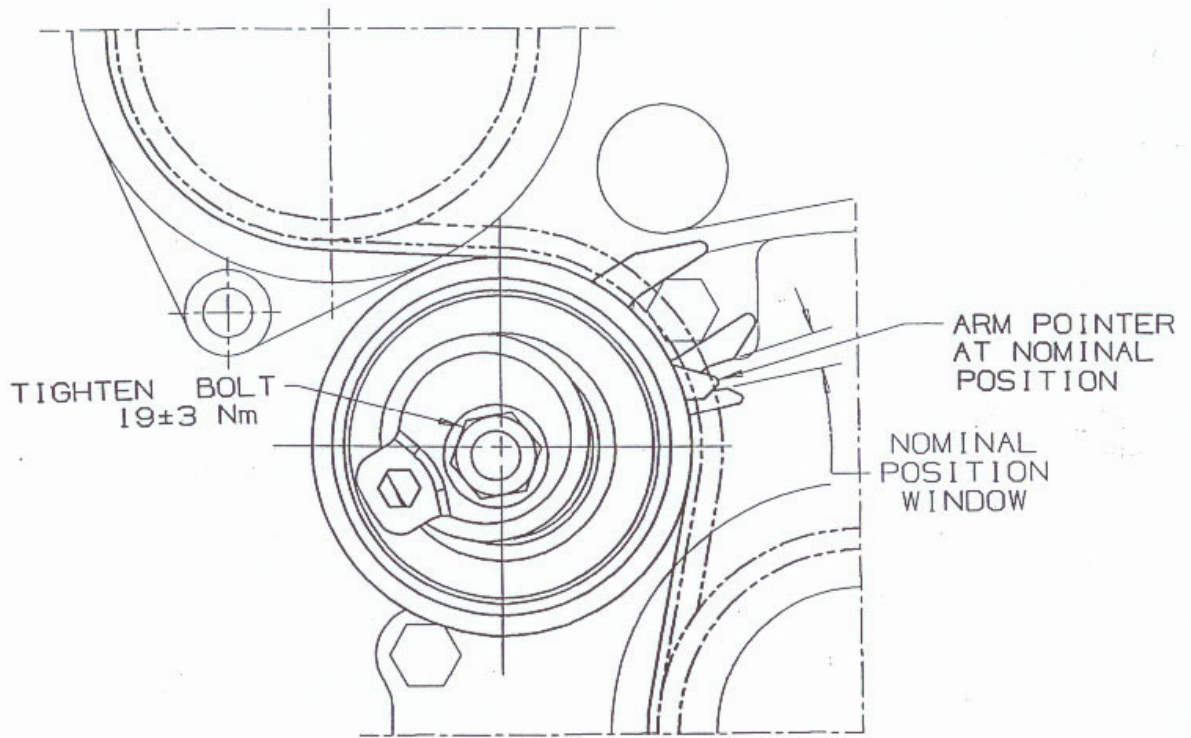

Figure 4: Proper Installation of Tensioner at Room Temperature (20°C)
7. Continue rotating the Installation Shaft Washer until the Arm Pointer is positioned within the Nominal Position Window on the base plate, then lock the tensioner in this position by tightening the Mounting Bolt with **19±3 Nm** of torque (**See Figure 4**).